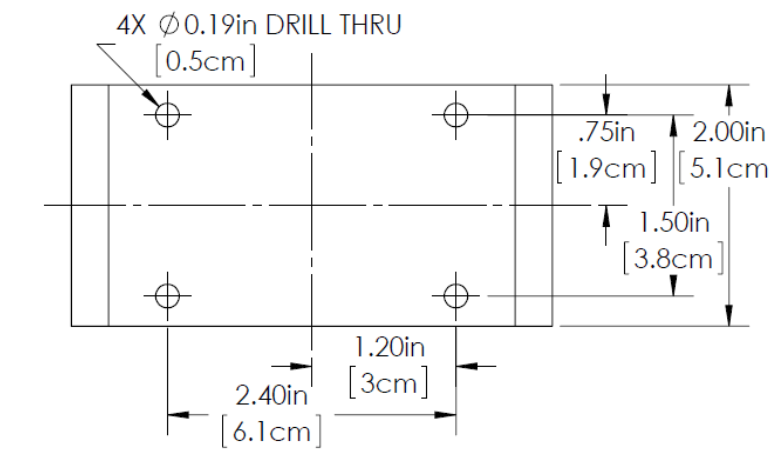

Figure 3-1 Mounting Bracket Hole Pattern
3. Refer to the mounting bracket hole pattern shown in Figure 3-1 and drill four 0.19in (0.5cm) diameter holes.